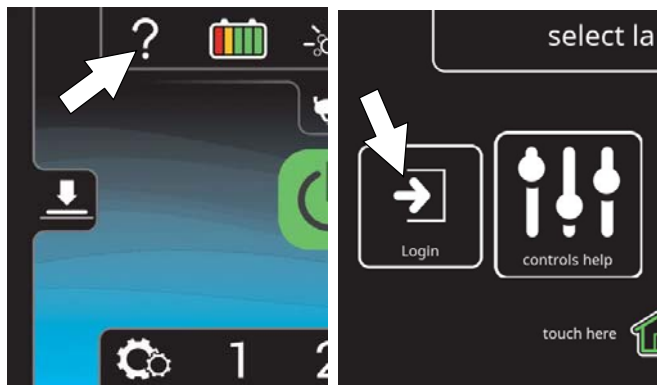

FIG. 177
2. Press the help button and log into the machine as supervisor mode (Figure 177). See *Entering the Supervisor Mode*.